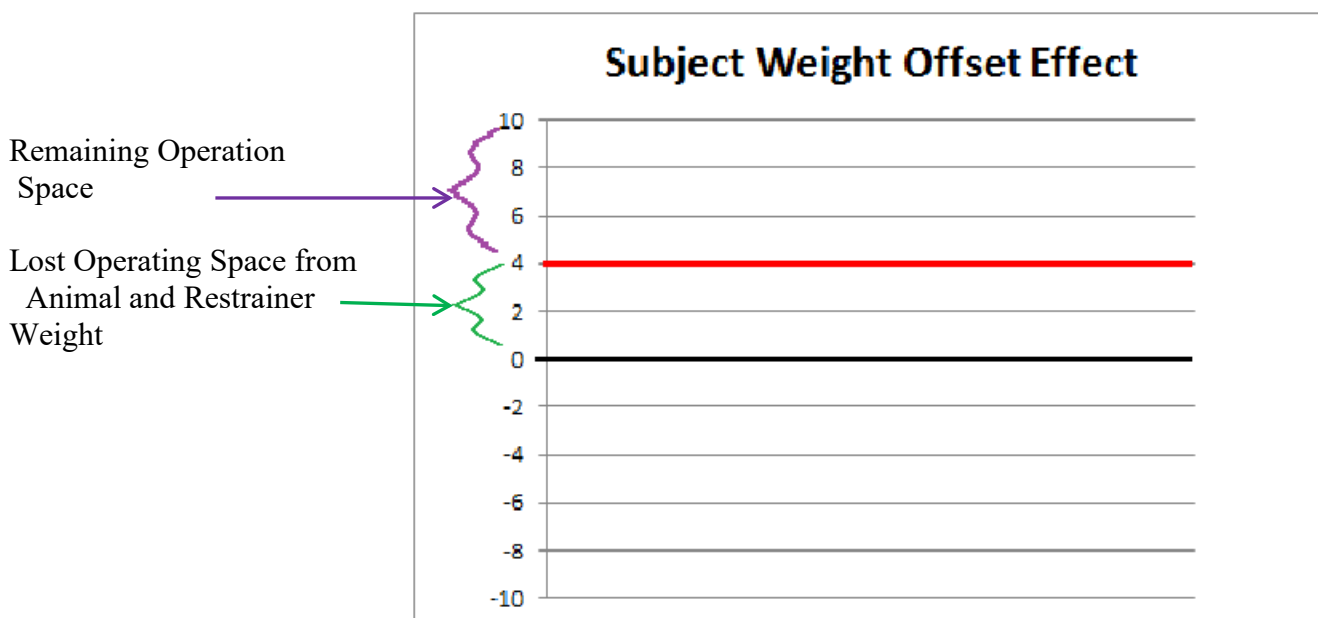
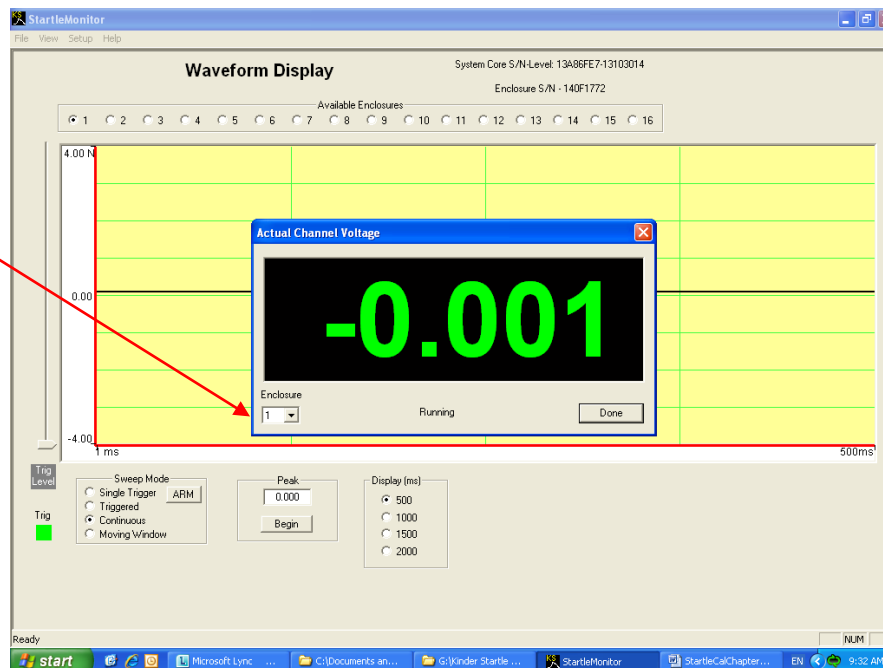

Figure 105 Subject Weight Offset Effect
Figure 106 View Actual Voltage Screen (Circuit)
span of the System and must be taken into consideration with choosing the Full Scale Settings. Figure 105 demonstrates this effect.
Step 2. From the main window, Click on **View** then **Diagnostic**, then **View Actual Voltage**. The following screen will appear (Figure 106).
Step 3. Using the adjustment tool, adjust the OFFSET potentiometer on the Service Pack (Figure 106) of Enclosure 1 for a value of 0.000 volts +/- .010 volts (Figure 105).